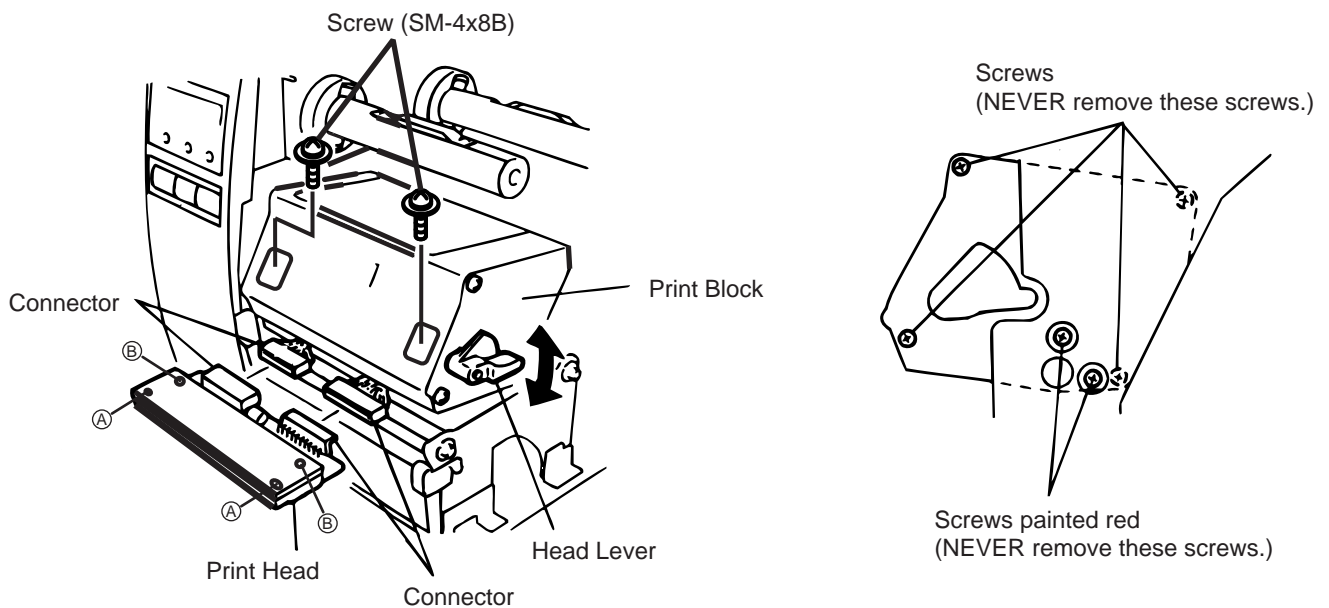

Fig. 2-15
3. NEVER remove the four screws on the side of the print block. (See Fig. 2-15)